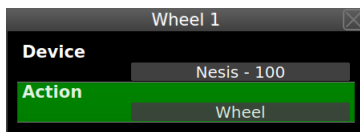

Figure 78: Joyu wheel movement was assigned to Aetos with serial number 100. Action in this case is knob rotate action, which equals to wheel.
4. Rotate a wheel. Same window appears, but with less options. Figure 78 illustrates an example.